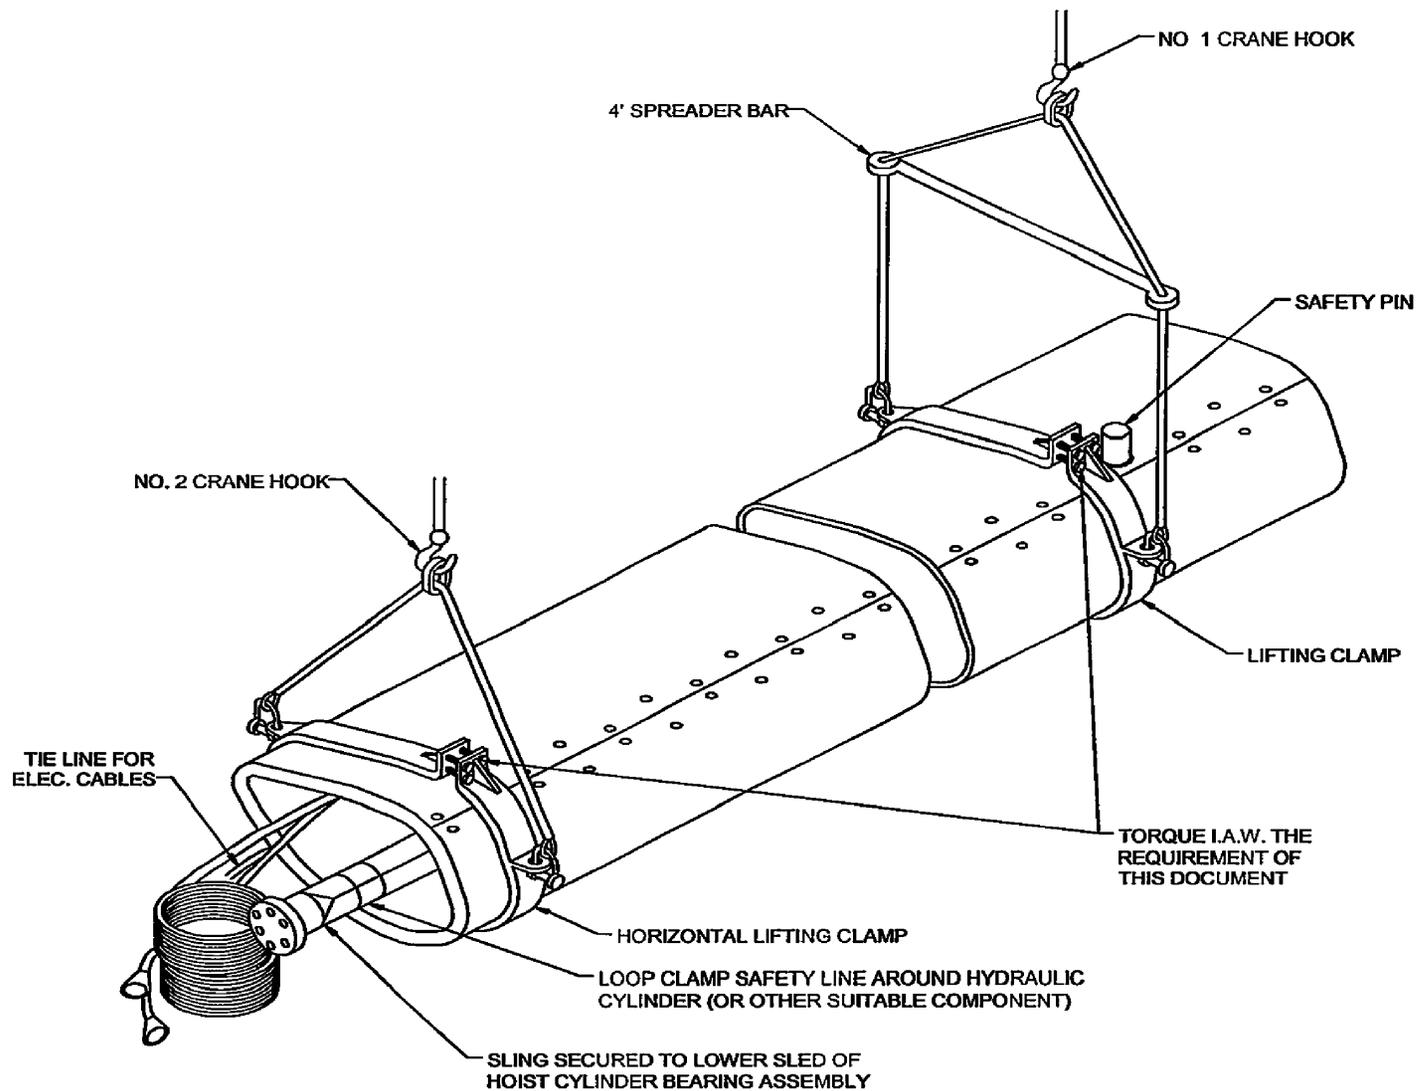

Figure 5-1 Faired Mast Assembly Rigged for Horizontal Lift
- b. Attach a horizontal lifting clamp on the lower end of the mast assembly or inner mast in accordance with paragraph 4.1. See Figures 5-1, 5-2, and 5-3 for rigging guidance.
- b. Lower the system about 3 feet above the ground. Attach a horizontal lifting clamp on the lower end of the faired mast or inner mast in accordance with paragraph 4.1. See Figures 5-1, 5-2, and 5-3 for rigging guidance.